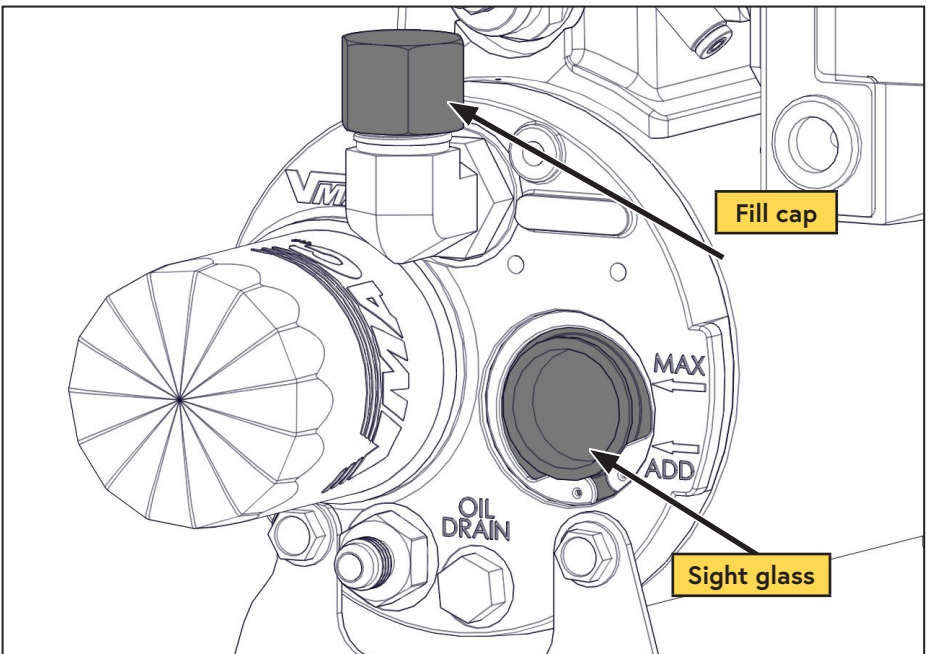

Figure 25 — Filling the WHASP Tank
- Remove the fill cap on the WHASP Tank (above the sight glass) (Figure 25).
- Using a funnel, pour oil into the tank until the oil level in the sight glass reaches the "MAX" line. **The system capacity is 4 L** (Figure 25).